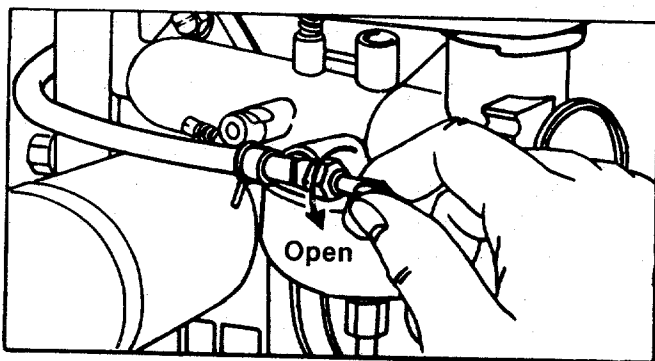

FIGURE 17. FUEL SHUT-OFF VALVE
Step 1. Be sure the fuel shut-off valve is open, must be turned counterclockwise. See figure 17.